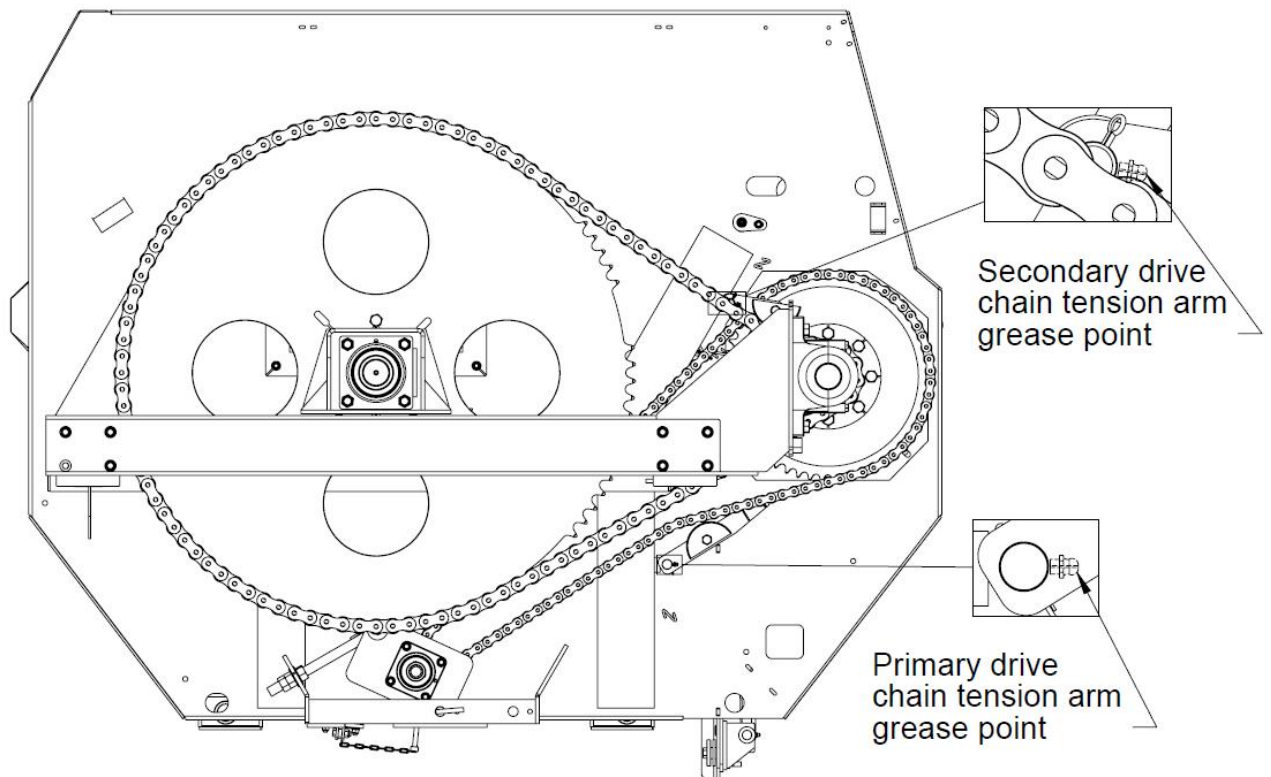

Figure 15: Tension arm grease points
- c. 2 grease fittings, 1 on the secondary chain tension arm and 1 on the primary chain tension arm (see figure 15)